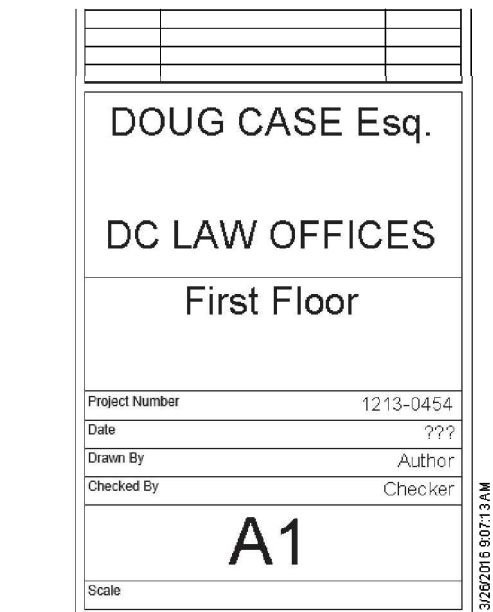

FIGURE 5-1.11 Sheet A1 – First Floor Plan:
17. **Zoom** in to the lower right area of title block (Figure 5-1.11).